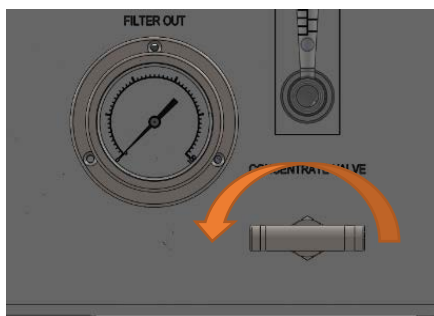

Figure 6
2. Once the vessel's tank is full press the STOP button (Figure 6).